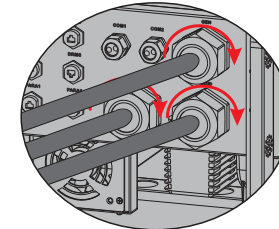

Figure 4.3-6 Install ac connection terminals
Step 4. Thread the AC cable through the Screw Cap and connect to the inside of the inverter. Then tighten the Screw Cap. See Figure 4.3-6.